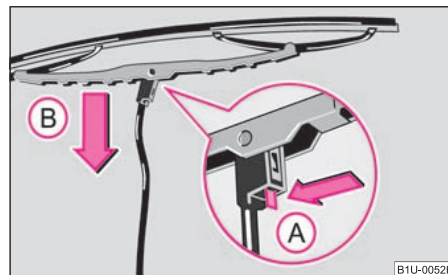

Fig. 56 Wiper blade for the windscreen wiper
- Press the securing spring in the direction of arrow (A) and press the wiper blade at the same time to the windscreen (B) - Warning, danger of breaking the windscreen. ⇒ fig. 56 ⇒ .